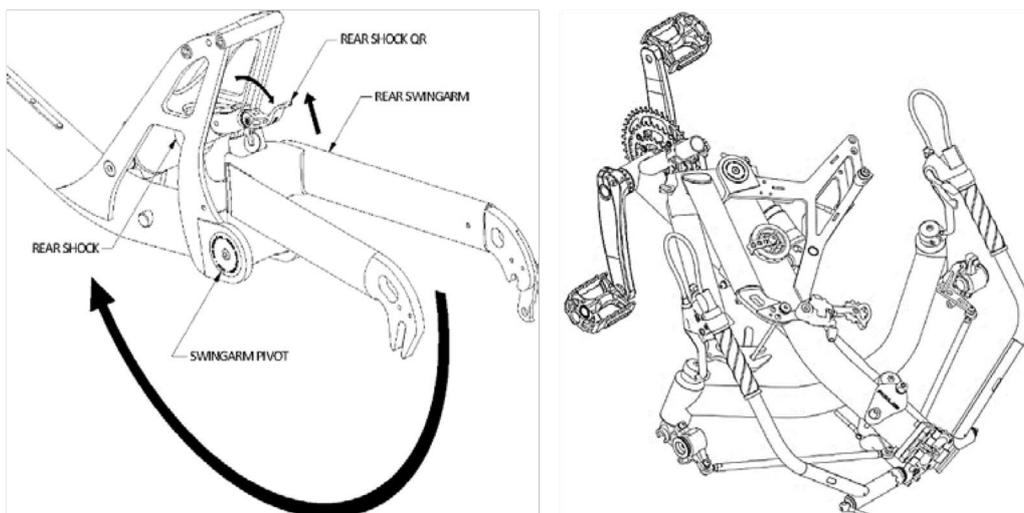

Figure 12 - Rear swingarm folding and extreme folded TRIcon
4. Open the rear shock QR, disengage the shock from the swingarm, and fold the rear swingarm (Figure 12).